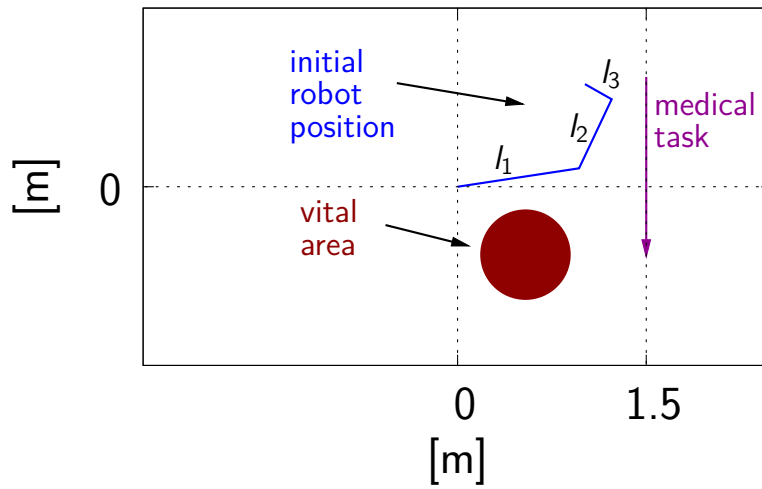

Figure 2: Three-link surgical robot.
- 1) Design, implement and visualize a joint trajectory for the three-link robot represented in Fig. 2, for straight line motion avoiding vital areas. Consider that $l_1 = 1$ [m], $l_2 = 1$ [m] and $l_3 = 0.3$ [m]. Explain design options.